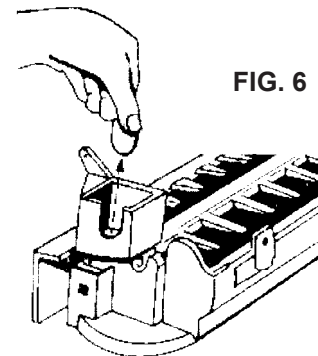

FIG. 6
6. Remove knock-out from end as indicated in Figure 6.